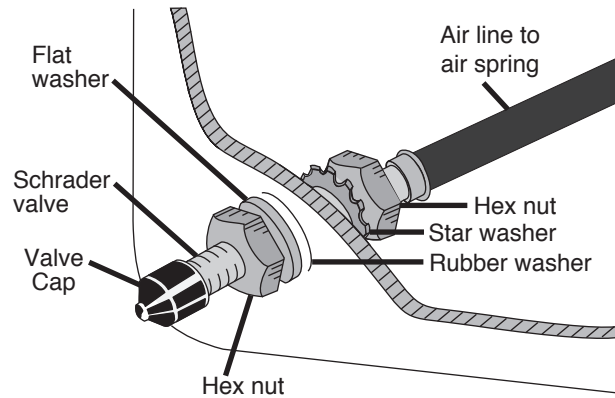

fig. 7
10. Drill a 5/16" (8mm) hole for inflation valve and mount as in illustration (Figure 7). Rubber washer is for outside weather seal.
6. Drill 5/16" (8mm) hole for inflating valves and mount as illustrated. Rubber washer is for outside weather seal (Figure 7).